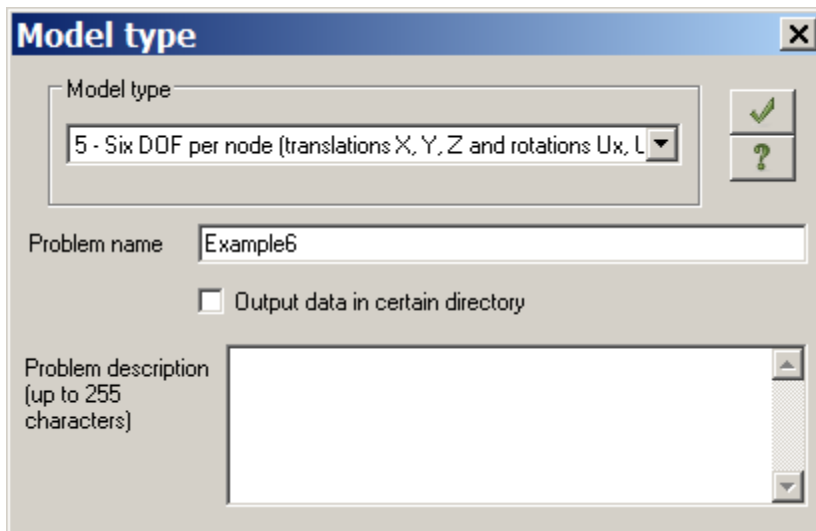

Figure 6.1 **Model type** dialog box
- ⇒ In the **Model type** dialog box (see Fig.6.1) specify the following data: